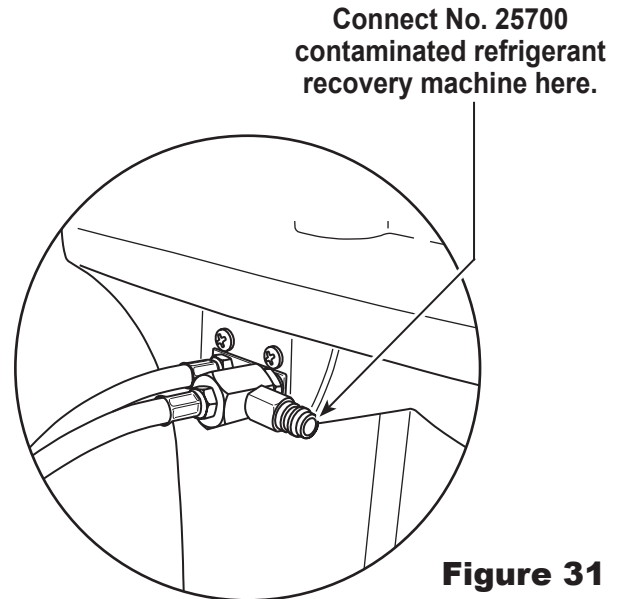

Figure 31
1. With the machine still connected to the vehicle and the couplers open, connect the low-side (blue) coupler from the 25700 to the contaminant recovery port on the back of the machine. See Figure 31. Open the coupler valves.